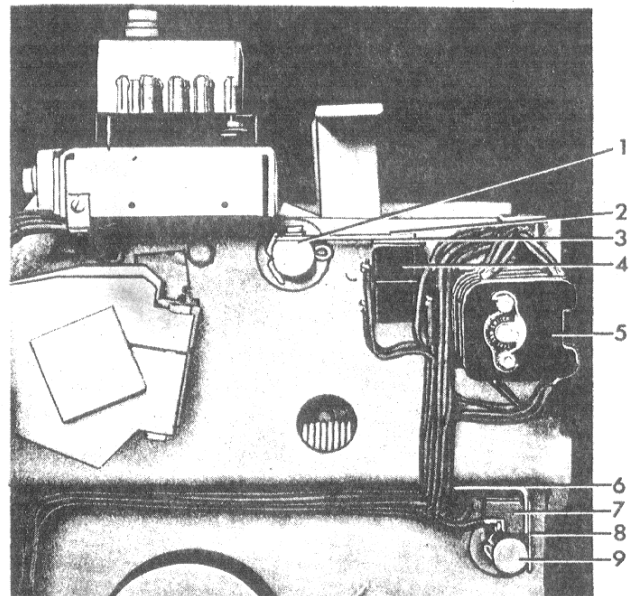

Figure 12. (8034474) Positive Interlock Switch
Refer to Figure 12. With the positive interlock in the reset, or normal position the clearance between the interlock switch arm (2) and the switch mounting plate (3) should be $1/32''$ or less. This can be adjusted by bending the switch arm.